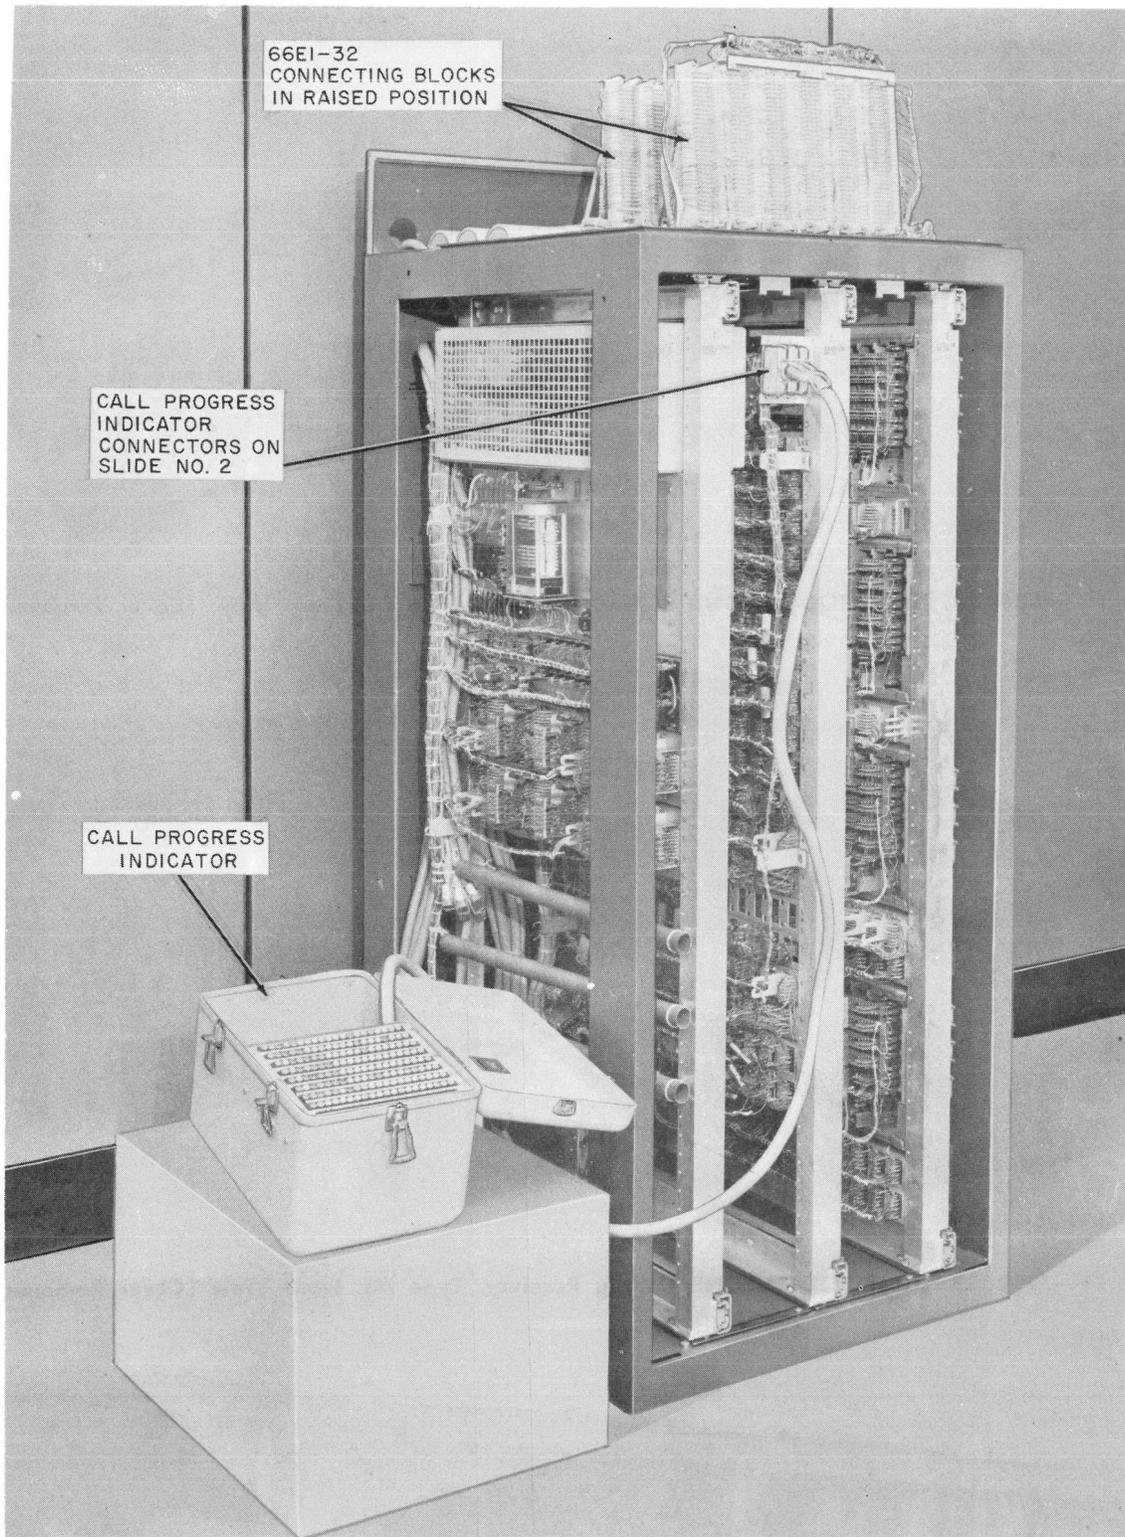

Fig. 13—J53035E Call Progress Indicator (Connected to Slide No. 2)
4.10 A J53035E call progress indicator (portable test set), is available for locating trouble conditions. The indicator cord is plug-ended and matching test connectors are provided on slide 2 (Fig. 13). Refer to Section 518-710-506 for operating methods of the call progress indicator.